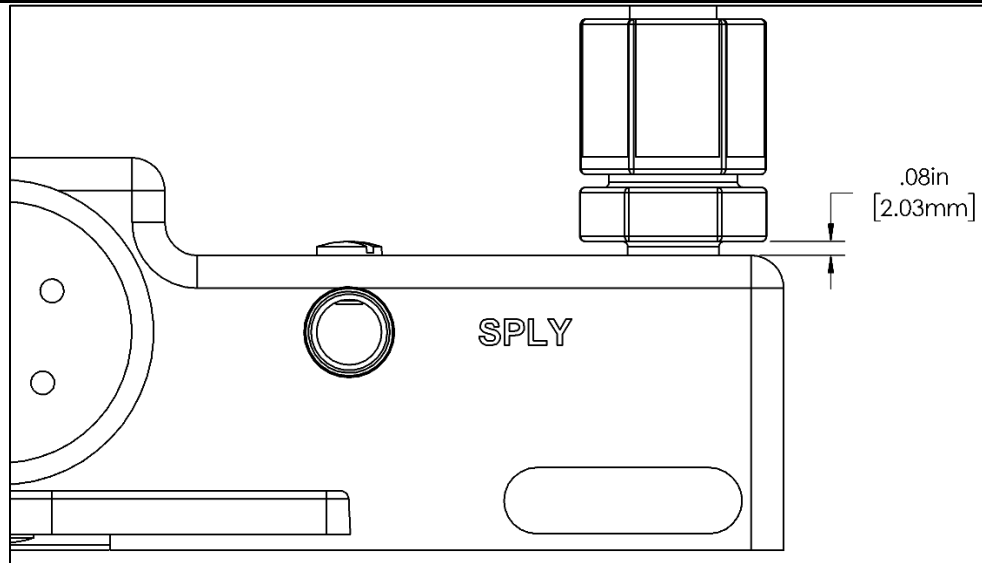

Figure 4-5: Jaco Fitting Final Position
- **Perform this step only if the Jaco fitting was removed during disassembly.** Apply PTFE thread tape to the NPT threads on the Jaco fittings. Do not tape more than $\frac{1}{2}$ of the threads. Thread the fittings into pump base - depth is .08 inch from bottom of wrench hex to top of pump base as shown. See Figure 4-5. Loosen the nut.